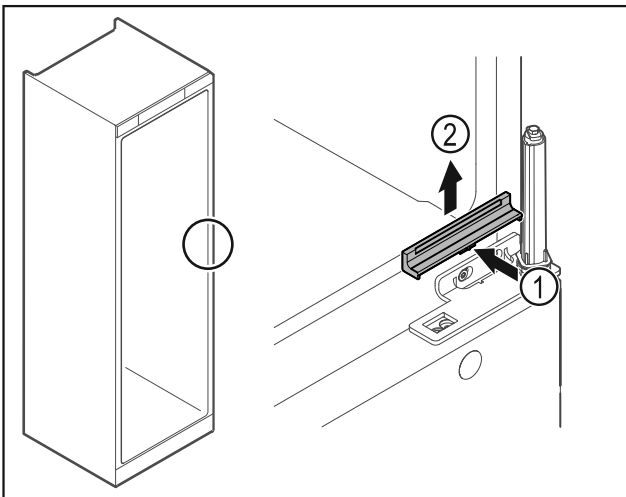

Fig. 33
- ▶ Gently press the middle of the cover Fig. 33 (1) and lift it off Fig. 33 (2).